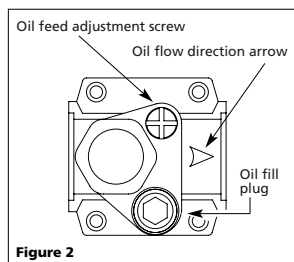

Figure 2
1. Trouver la flèche indiquant la direction du débit (Voir Figure 2, détail). Cette flèche indique la direction de la circulation d'air donc elle pointe vers la sortie.
3. Vérifier que la flèche pointe vers la sortie. (Voir la figure 2.)
4. To fill the lubricator, first shut off the air supply and release all stored pressure. Next, remove the oil fill plug (See Figure 2). After the oil fill plug has been removed, pour oil into the lubricator and then reinsert the oil fill plug. Alternatively, the bowl can be removed once the air pressure has been released. Be certain to fully tighten the bowl before resuming operation.